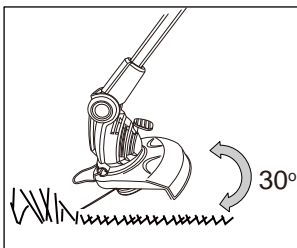

Fig 13
5. Hold the trimmer head just above the ground at an angle of approximately 30° (Fig 13).